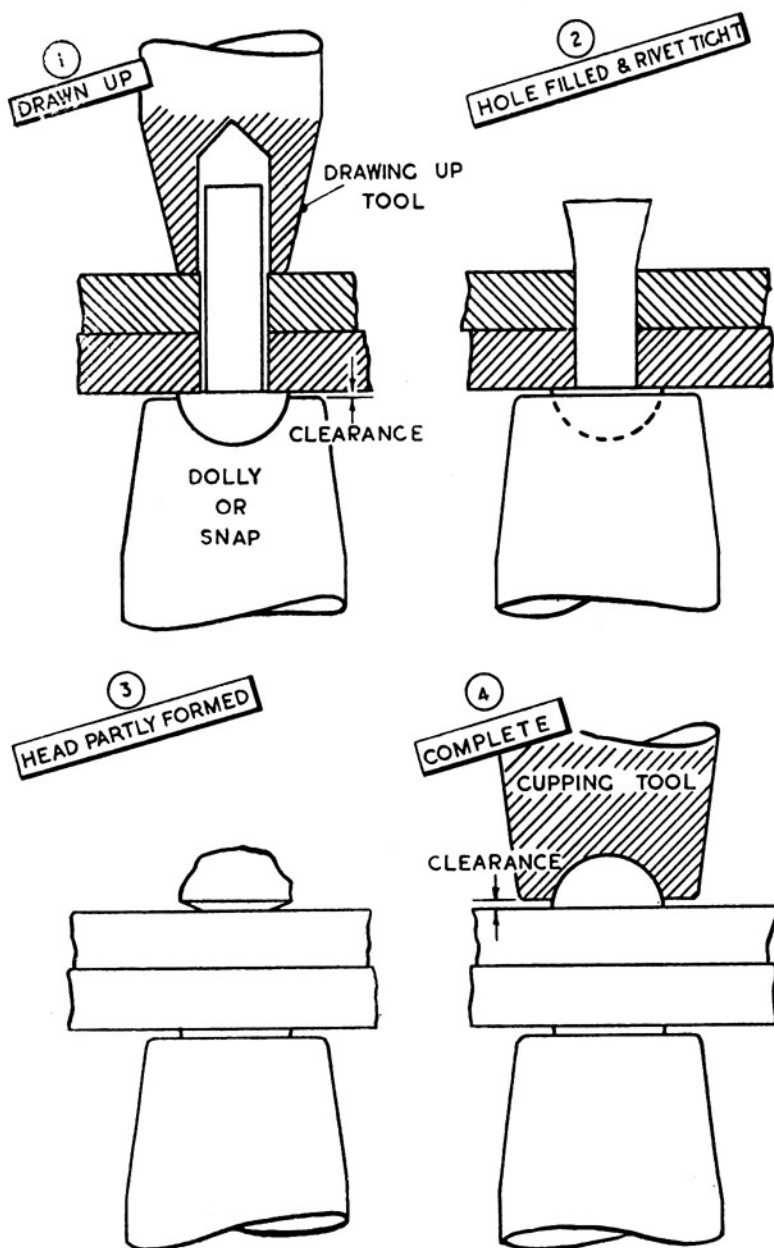

Fig. 92
The usual support for small work is a "dolly" (see Fig. 92) held in the vice, having a piece of steel underneath so that it
sits solid against the bottom of the vice. A cast-iron block support is very satisfactory, having a recess if necessary to fit the rivet head. Sometimes a long dolly has to be used, held against the rivet by an assistant. The progressive stages of riveting are shown in Fig. 92.
Start this operation using the flat of the hammer until the rivet has filled the hole and tightened up. Then roughly form the cup head using the ball pane. Finish off with the cupping tool. Refer to Fig. 92.
At (4), Fig. 92, the cupping tool is shown in section. Notice that the tool is just clear of the work face so as not to leave a mark. If the rivet is too long a skirt of metal will be left round the bottom of the rivet head, and when the rivet is too short the head will be improperly formed and the cupping tool will mark the work. The result in both cases is scrap.